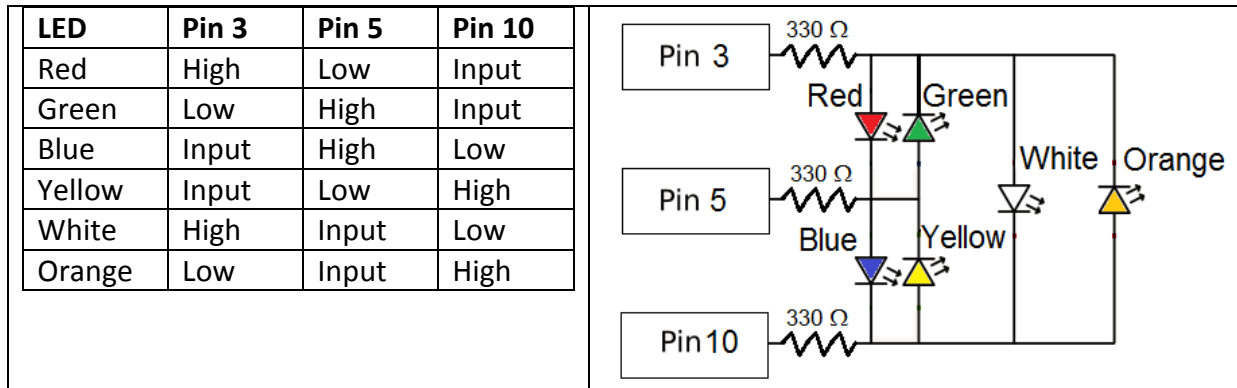
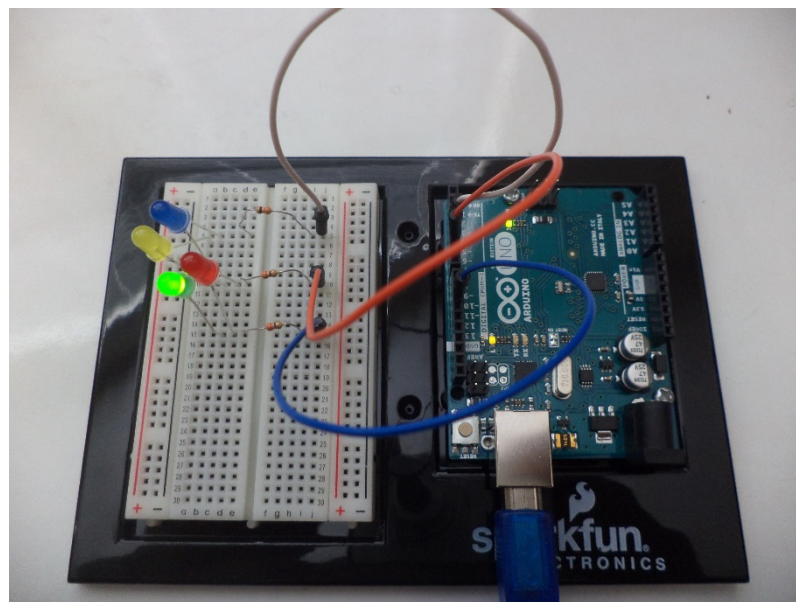

Figure 2: Charlieplexing 6 LEDs
Figure 3: 4 LEDs in Charlieplex circuit
5. The diagram and table in Figure 2 shows how the *Charlieplexing* would work with 6 LEDs and 3 pins. Figure 3 shows how the Charlieplex circuit looks on the breadboard.
7. On a new breadboard, build the circuit in Figure 3 which is the same as Figure 2 except the white and orange LEDs are removed. Compile and upload the program to the Arduino microcontroller. **Note that there will be a library error when you attempt to compile the example because it was made for an older version of Arduino software.** This can be corrected by opening the file, "C:\Program Files (x86)\Arduino\libraries\CharliePlex\Charlieplex.h" in a text editor. Next, replace the line, #include <WProgram.h> with the following code: